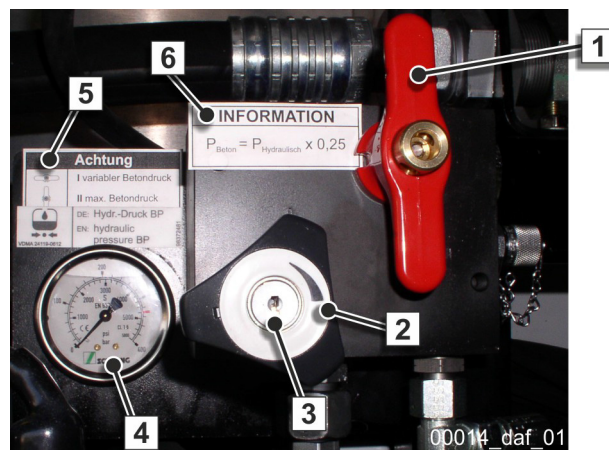

Fig. 242
The hand-wheel (2) (**Fig. 242**) is locked and the key is located on the right-hand side inside the control cabinet.
Only change the position of the ball valve (1) (**Fig. 242**) if your concrete pump is set to the minimum delivery rate!
3. Move the ball valve (1) (**Fig. 242**) into the "I variable concrete pressure" position.
5. Now observe the pressure gauge on your "DAF" (4) (**Fig. 242**).
6. Unlock the hand-wheel using the key (3) (**Fig. 242**).
If you would like to switch your pump back to maximum pressure, move the ball valve (1) (Fig. 242) on the "DAF" back to the "II max. concrete pressure" position.